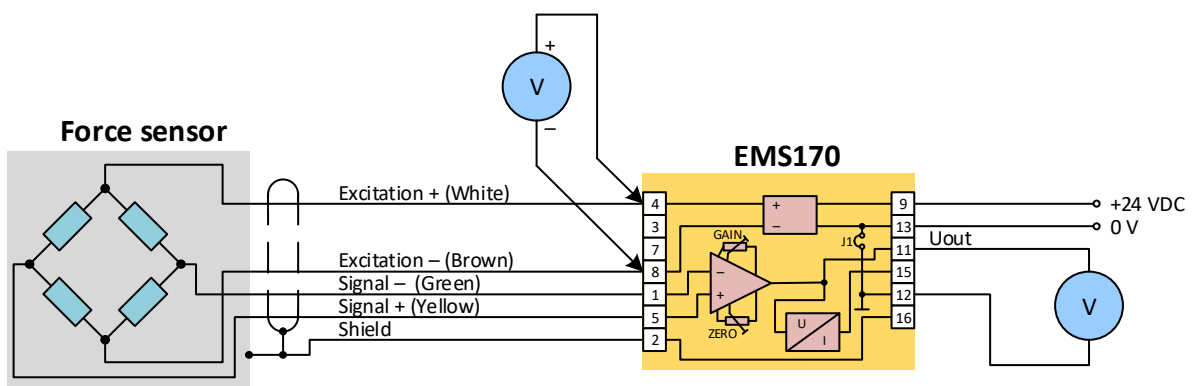

Fig. 10. Measurement of excitation of the sensor under load
3. **Check sensor power supply 2 (under load).** If the sensor excitation is measured according to the previous paragraph in order, it must also be measured with the sensor connected. It may happen that the error does not appear until after loading. The sensor is connected according to fig. 10 and measure the voltage at terminals 4 and 8 again. The voltage should not change, the original value of 5 or 10 V should remain. If the value changes (decreases), the fault is in the power supply part of the converter or the sensor may be damaged - it has a short circuit. In this case, the resistance of the sensor must be measured as described in the next step.